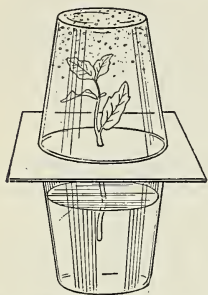

Fig. 352. To show that leaves give off water vapor.
**Getting rid of wastes.** The plant takes up from the soil a great deal more water than it needs in starch making. A current of water passes steadily up from the roots to the leaves. Water has many things to do in the plant. One of these is to carry substances up the stem, for all solid substances must be dissolved to travel from cell to cell. When the water has done its work, the surplus must be gotten rid of. It passes off as water vapor through the stomata. This passing off of water vapor from the leaf is called *transpiration*. Figure 352 illustrates an experiment to show transpiration.
*Directions:* Arrange as shown in Figure 352. Place in the sun and examine shortly.